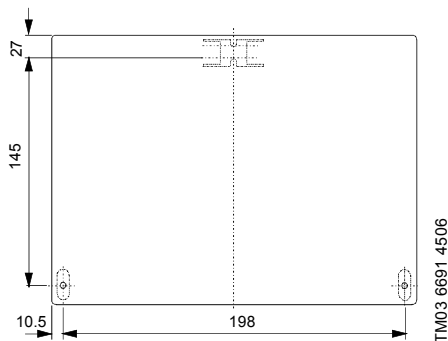

Fig. 6 Wall-mounted enclosure Conex® DIA-2
2. Screw the screw (A) into the top centre dowel until it projects by approximately 1 cm. See fig. 6.
4. Hang the instrument onto the screw (A).
5. Tighten the instrument with the two screws (B).